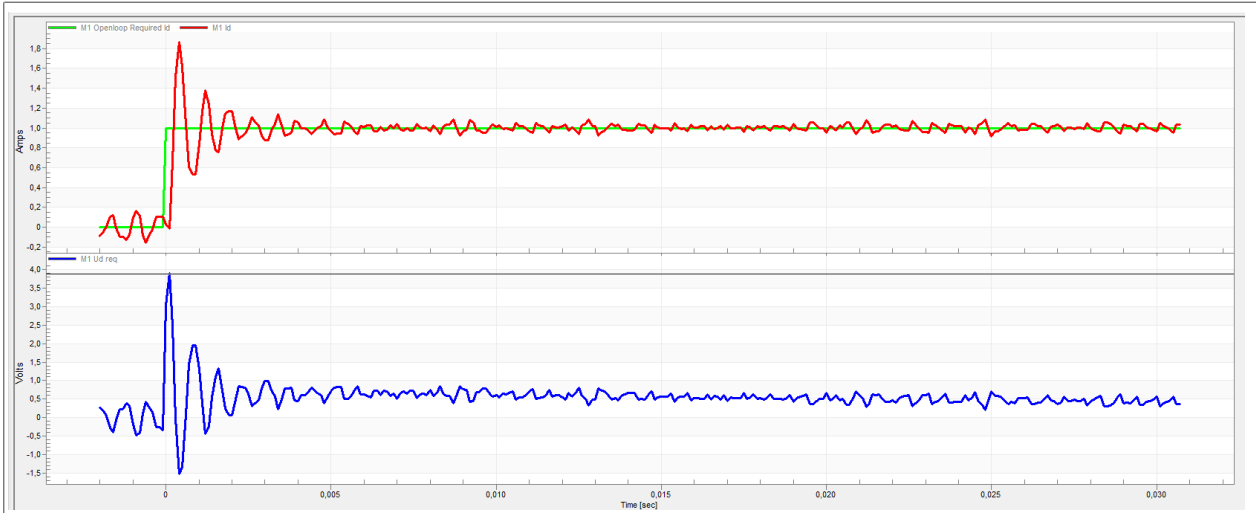

Figure 35. Fast step response of the Id current controller
- The loop bandwidth is high (700 Hz) and the response time of the Id current is very fast, but with oscillations and overshoot (Figure 35).